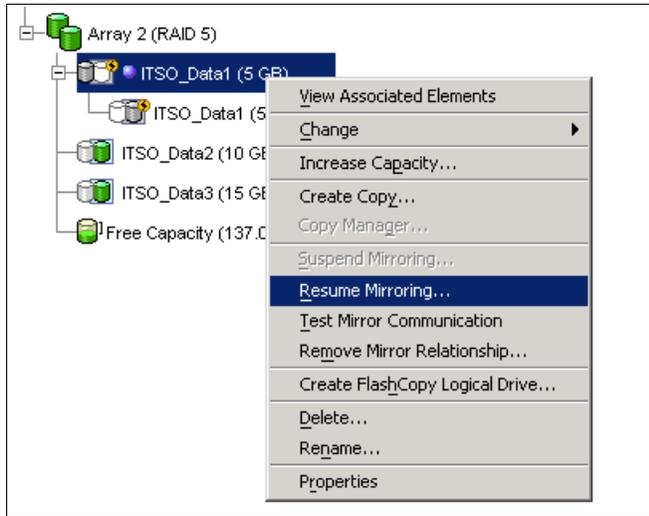

Figure 8-54 Resuming mirror on a logical drive
1. Select the logical drive in the logical view of the primary storage system and then select the **Logical Drive** → **Remote Mirroring** → **Resume** pull-down menu option or select **Resume Mirroring** from the pop-up menu that you get by right-clicking (Figure 8-54).